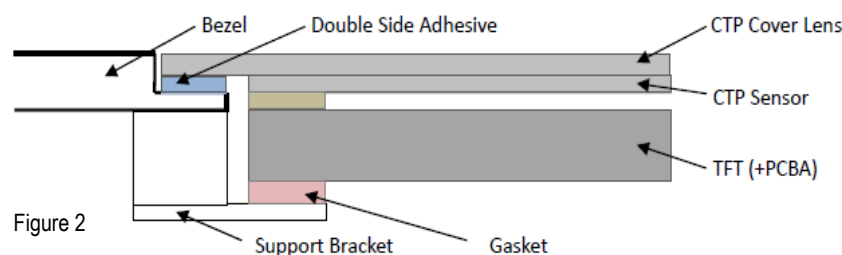

Figure 2
7.2 Surface Mounting (Figure 2)